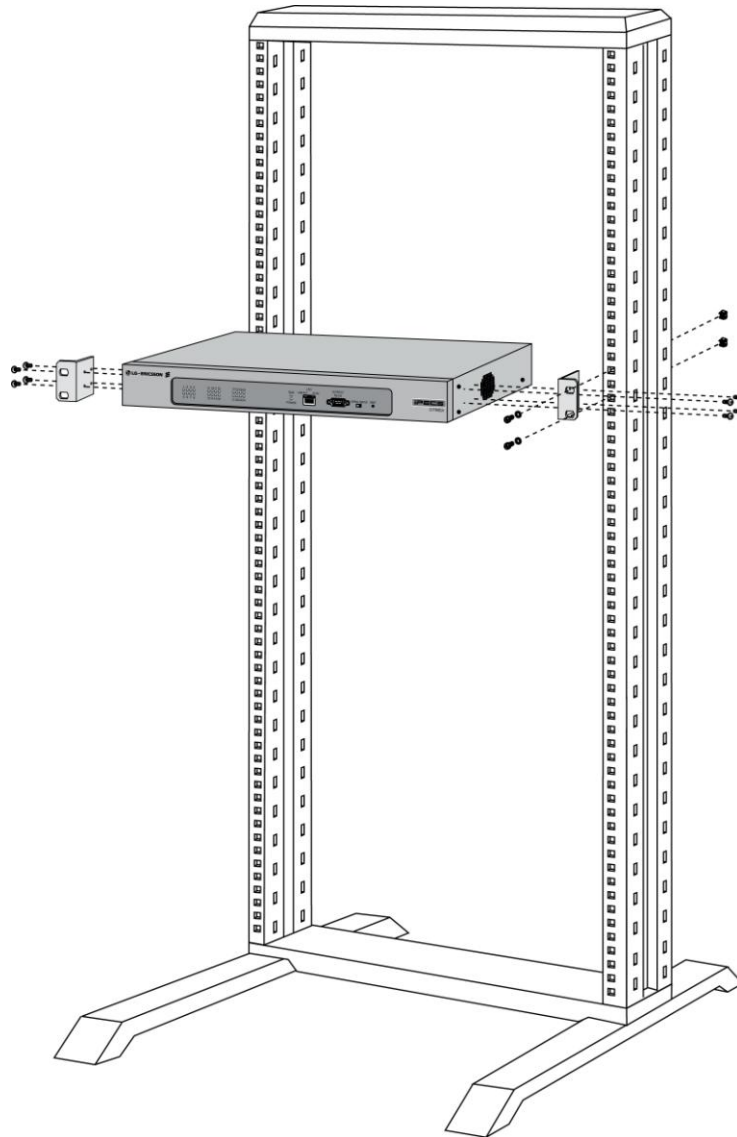

Figure 4.5.8-1 DTIM24 Rack Mounting Installation
- Mount the left and right mounting brackets to the DTIM24 module using the eight (8) machine screws provided as shown in Figure 4.5.8-1.
- Mount the Module with the four (4) machine screws, nuts and washers as shown in Figure 4.5.8-1.